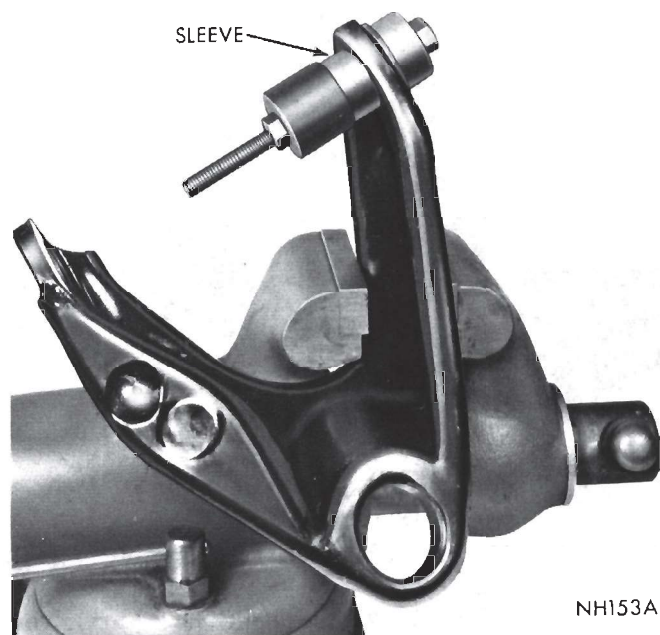

Fig. 27—Installing Support Sleeve on Bushing
(1) Position flange end of new bushing in Tool C-3710A, (Tool C-3962 Fury) support control arm squarely, and press bushings into control arm (from outside) until tapered portion of bushing seats on the arm. On Valiant models with 10 inch front brakes and Satellite police and taxi application (using bushing support sleeve) remove Tool C-3710A after bushing has been installed and install adaptor SP-3827 in place of SP-3233A cup on tool and install support sleeve on rear bushing only (Fig. 27).